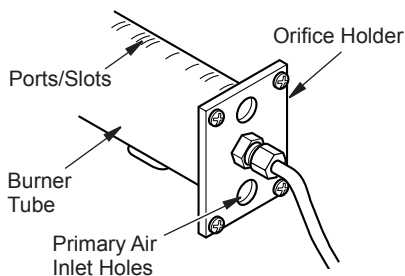

Figure 46 - Orifice Holder On Outlet Burner Tube
2. Inspect burner, pilot and primary air inlet holes on orifice holder for dust and dirt (see Figure 46).